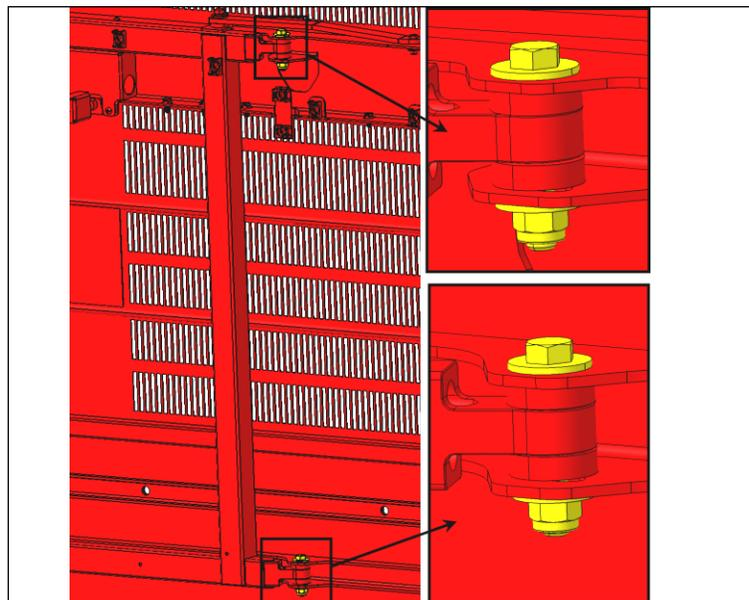

FIGURE 5
4. If the vertical position is out of tolerance, rotate the door using the adjustment provided on the inner side of the door, at the attachment points between the arm and the door (FIGURE 5).